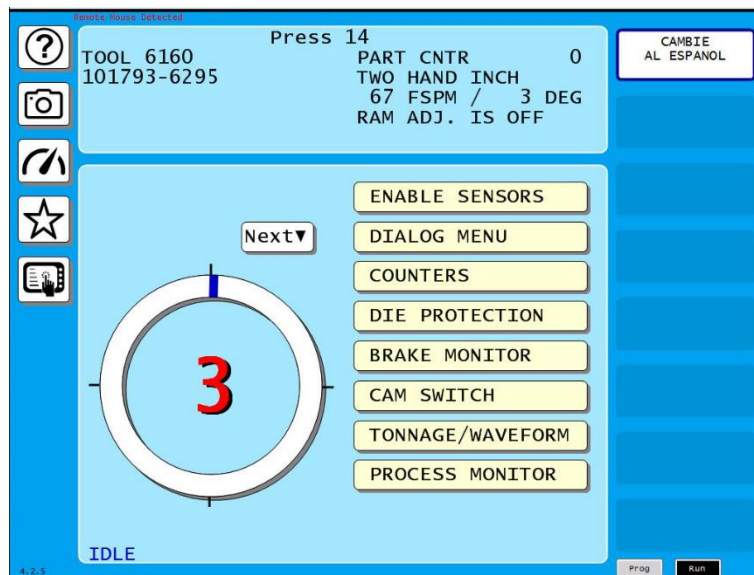

Figure 4. Example of remote SmartPAC PRO screen
5. The SmartPAC PRO screen image appears, similar to Figure 4: